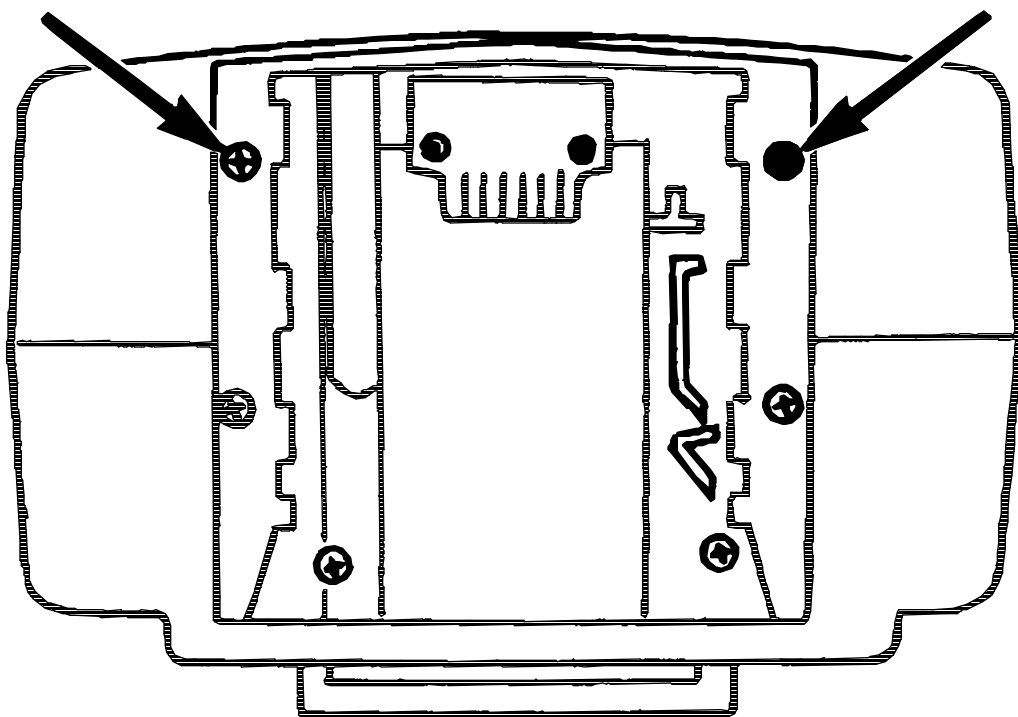

Figure 4-4 Loosening Base Plate
- 1.7    **Loosen (do not remove) two screws on Base Plate nearest connector. (Fig. 4-4)**